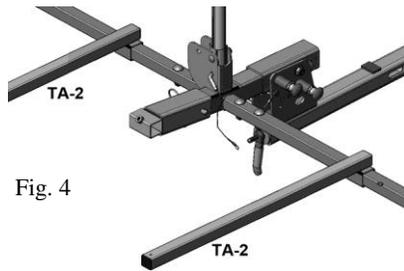

Fig. 4
Step 3: Install TA-2 on both the left side and right side wheel tubes. (Fig. 4)